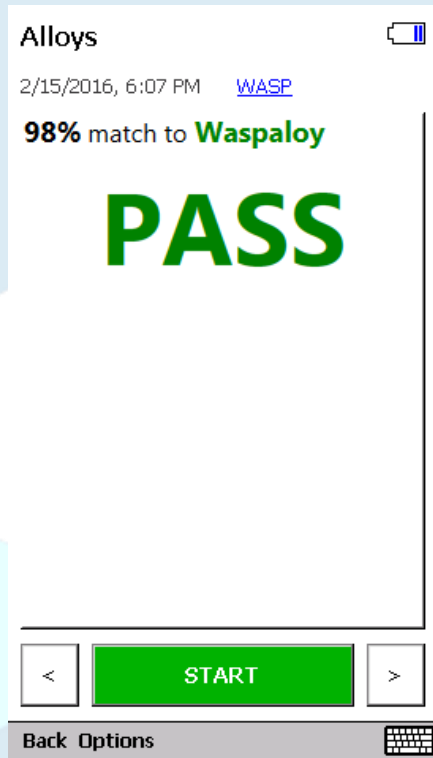

Figure 3. Testing screen of “Pass/Fail” mode.
- Pass/Fail. It is a useful mode for grading a specific alloy ID. Displaying “Pass” message when measured alloy fully complies alloy grade what you want, and “Fail” in other case. See figure 3.